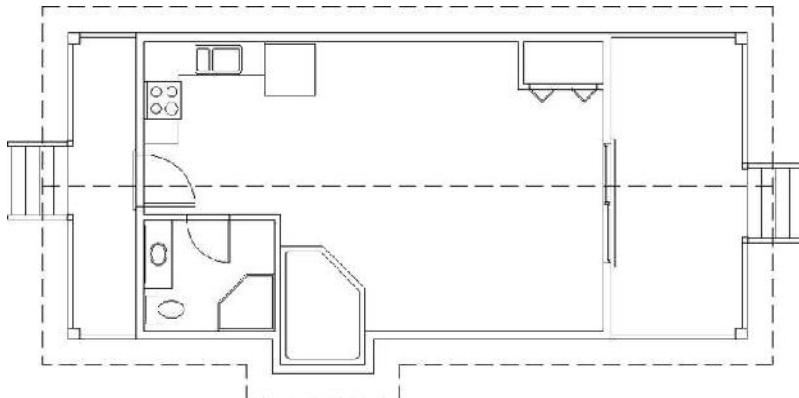

FIGURE 6.48: The completed roof
- Your cabin should look like Figure 6.48.